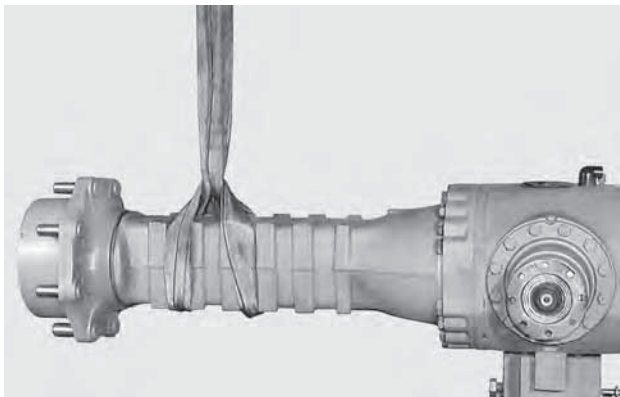

FIGURE 1: Disconnect the steering bars from the steering case. For details, see STEERING CYLINDER p. 47.
FIGURE 1: Loosen nuts (30) of screws (31) provided for the mechanical and manual release of the braking units, then move the nuts backwards by approximately 8 mm.